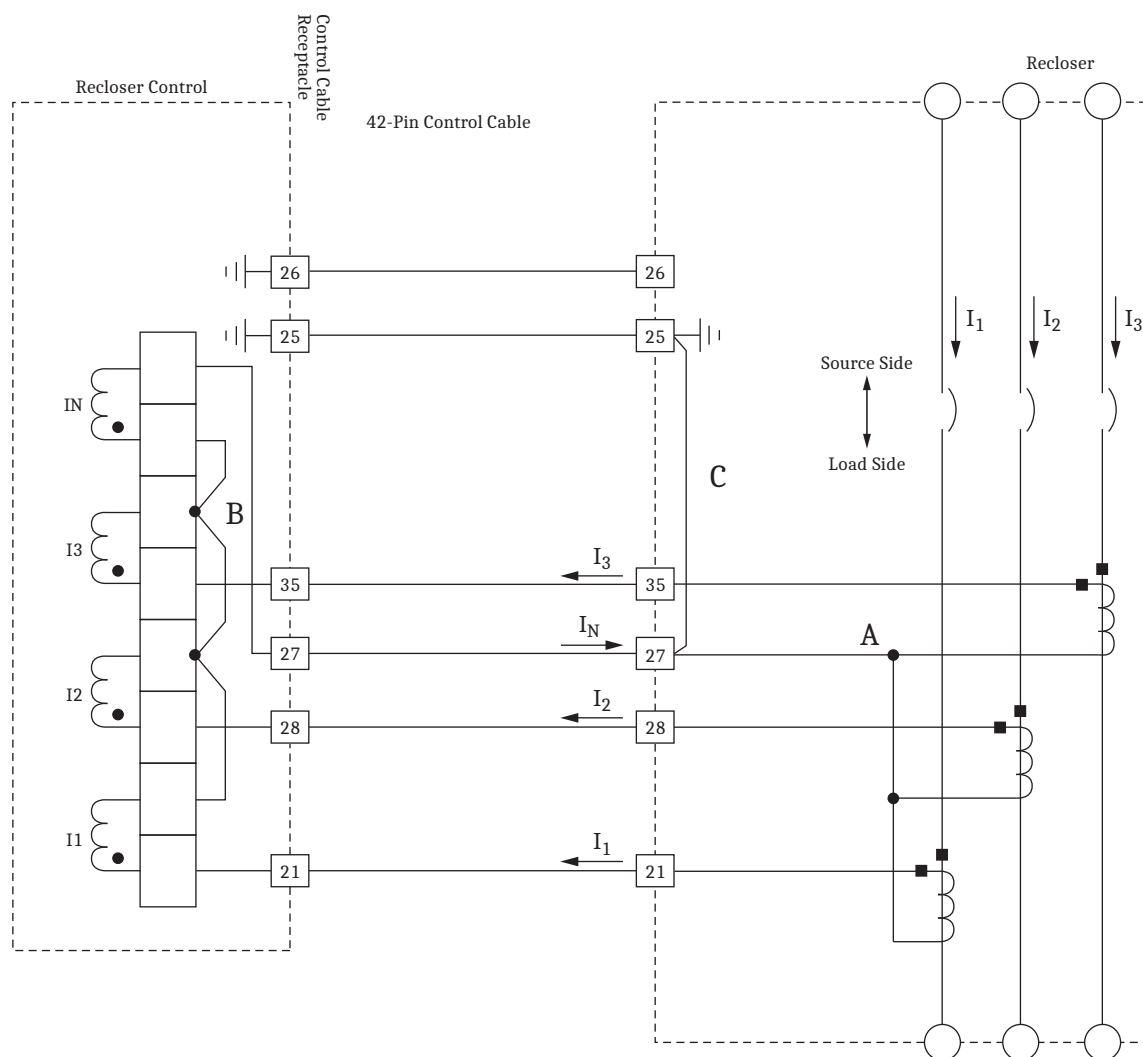

Figure 15 CT Circuitry and General Grounding Connections
The CT returns must be residually connected at the recloser (see *Figure 15* location A) and at the control (see *Figure 15* location B).
The CT circuit ground point should be made at the residual/return terminal (see *Figure 15* location C).
- Pin 25 Main ground, generally the shield for the control cable, providing a bond between the recloser tank ground and control cabinet ground lug connection through the control cable (*Figure 15*)
- Pin 26 Additional ground, which is not designated for a specific purpose and may be used for other grounding needs (*Figure 15*)